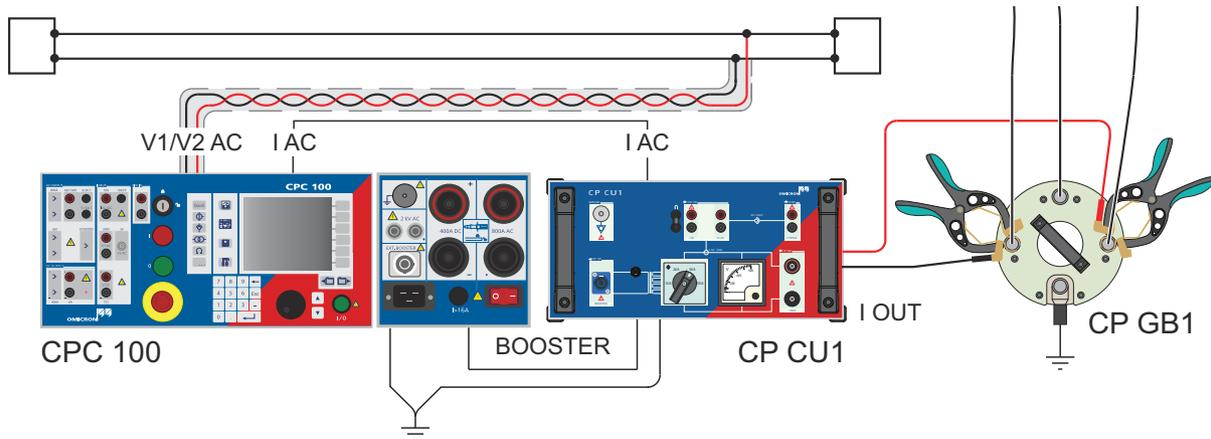

Figure 6-2: Coupling into signal cables measurement setup for the line-to-line measurement
9. Reconnect the measurement cable according to Figure 6-2 below.